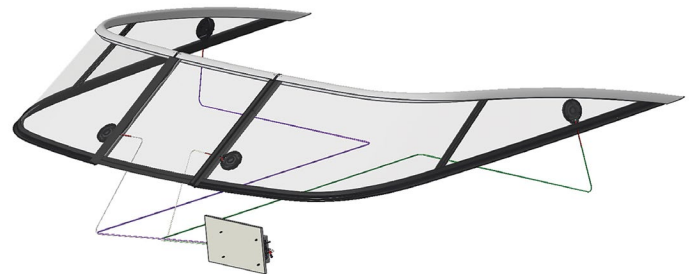

Fig.2
3. Connect the speaker wires from installed Exciters to the amplifier (Fig.2) according to the wiring diagrams on the next two pages.